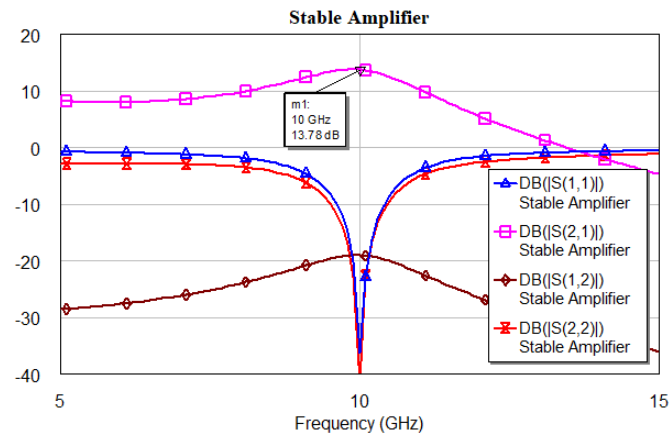

Fig. 17 S-parameters of the amplifier from Fig. 16.
- The resulting parameters are shown in Fig. 17.